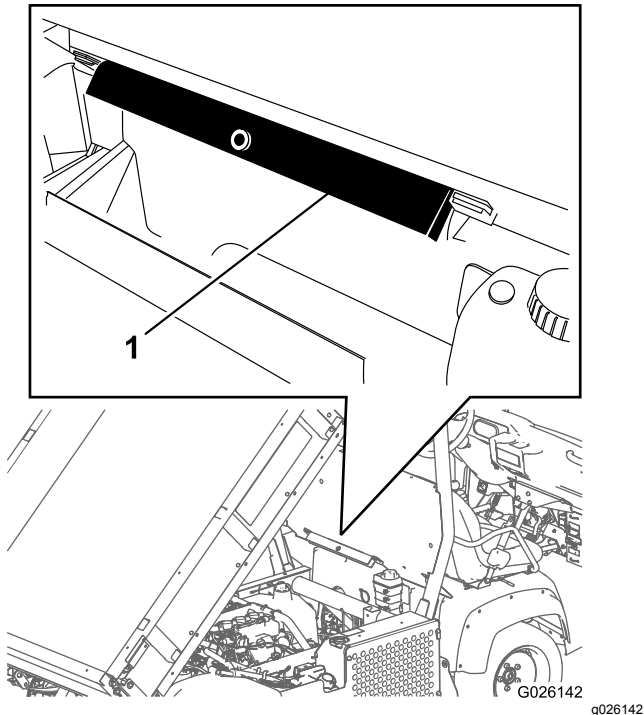

Figure 28
2. Remove the bed support from the storage brackets on the back of the ROPS panel (Figure 28).